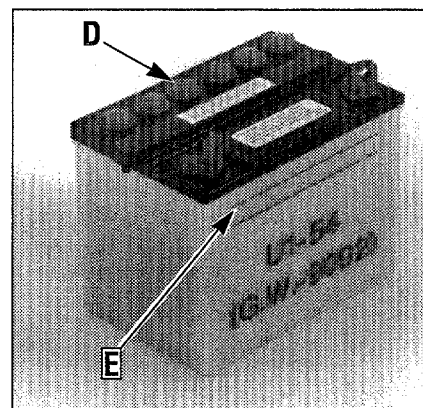

Figure 2-17: Illustration shows filler caps (D) and Upper Level fill line (E).
4. Remove the six filler caps (D, Figure 2-17) on top of the battery.
5. Fill each cell to the Upper Level line printed on the battery case (E, Figure 2-17) using battery-grade electrolytic solution. (This is 1.265 specific gravity sulfuric acid.) Temperature of battery and electrolytic fluid is ideal when between 60°F and 80°F. Do not add water or any other liquid to the battery during this initial activation.